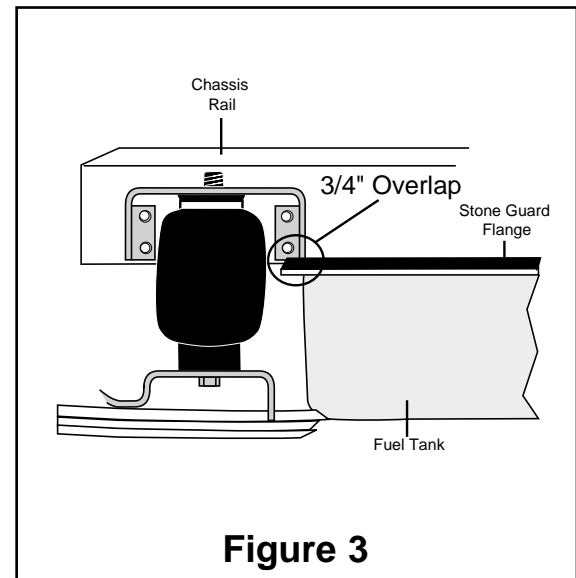

Figure 3
4. Position the upper bracket so that the lower edge of the bracket legs are flush with the lower edge of the chassis rail (Figure 3). **If your vehicle is equipped with a fuel tank stone guard, the trailing edge of the upper bracket leg should rest on the flange of the fuel tank stone guard and overlap no more than 3/4" (Figure 3).** The normal mounted height of the sleeve should be between 5.5" and 7" tall. The kit must be mounted behind the axle. It may be necessary to trim the inner fender (plastic) to clear the air fitting.
Stability translates into safety and should be the priority, meaning the driver may need to sacrifice a perfectly level and comfortable ride. Stability issues include roll control, bounce, dive during braking and sponginess (fig. 3). Tuning out these problems usually requires an increase in pressure.